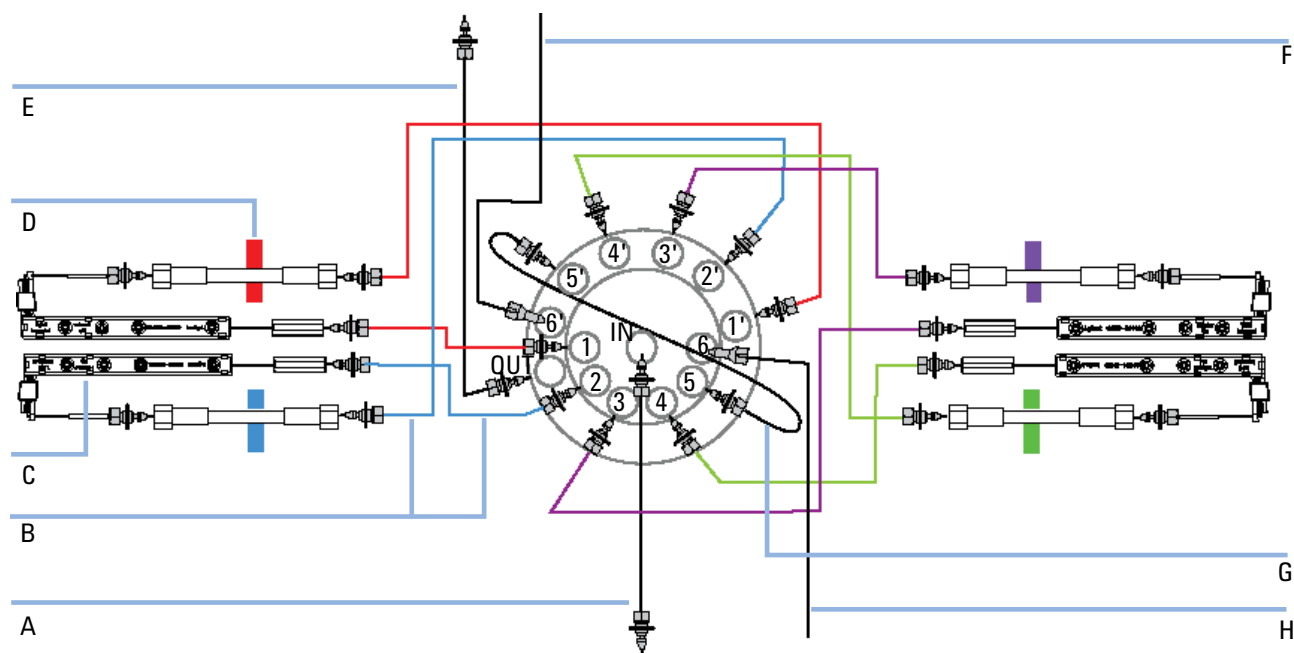

Figure 5 Installing the capillaries
- 2 Install the capillaries according to Figure 5 on page 14.